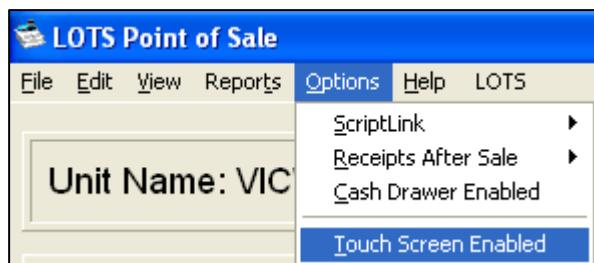

Figure 121
1. From the 'LOTS Point of Sale screen navigate to the Options drop down menu → Touch Screen Enabled (as shown in Figure 121).